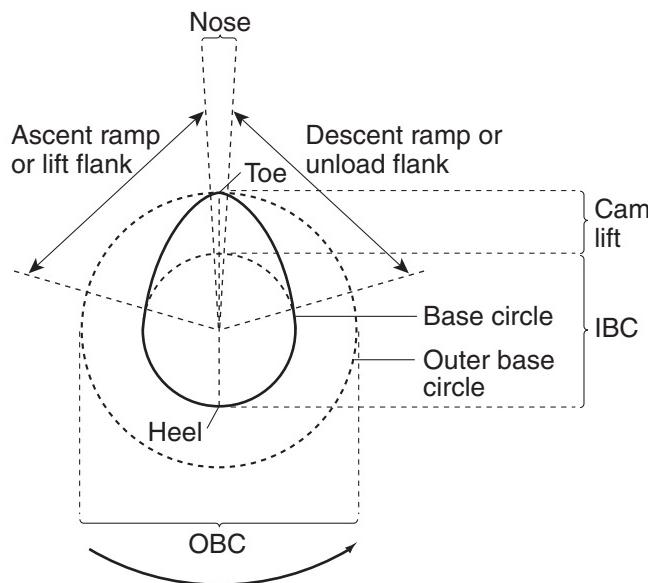

Figure 5-4 Camshaft terminology.
it actuates will be loaded for most of the cycle. What a cam profile is required to do, determines whether it uses a mostly IBC or mostly OBC design. In some cases, you will come across a design that is a mix of both. **Figure 5-4** explains some cam terminology as it applies to a cam whose profile is mostly IBC.
2. Referencing **Figure 5-4**, mike the cam profile heel-to-toe dimension and check to OEM specifications. Mike the base circle dimension and check to specifications. Subtract the base circle dimension from the heel-to-toe dimension to calculate the cam lift dimension. Check to specifications. Cam lift can also be measured using a dial indicator with the cam-shaft mounted in V-blocks. Zero the dial indicator on the cam base circle and rotate the cam-shaft to record the lift. Ensure that a dial indicator with sufficient total travel to measure the specified lift is used. When checking the cam lift dimension with the cam-shaft in-engine using a dial indicator, the measurement may not exactly match the OEM spec, even when the cam profile is in good condition. This variance is usually due to the lie of the cam-shaft in the support journals.